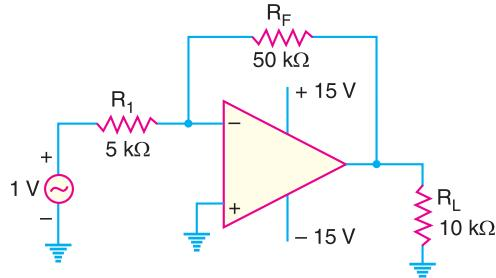

Fig. 25.101
7. For the circuit shown in Fig. 25.101, find (i) closed-loop voltage gain (ii) the instantaneous voltage across R_F when the signal voltage is +1 V (iii) the instantaneous voltage on the –terminal when the signal voltage is +1 V.